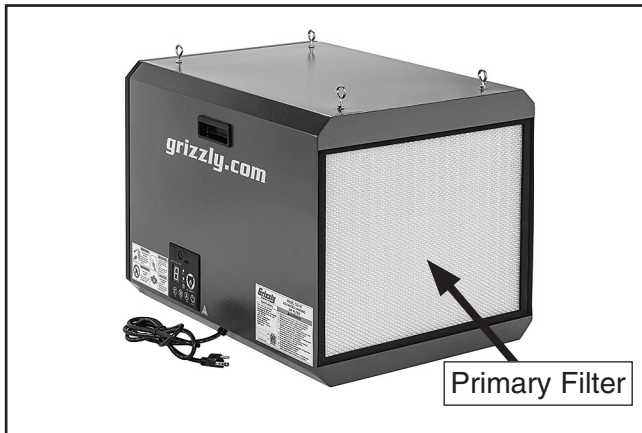

Figure 25. Location of primary filter.
4. Remove primary filter from intake side of machine (see **Figure 25**).